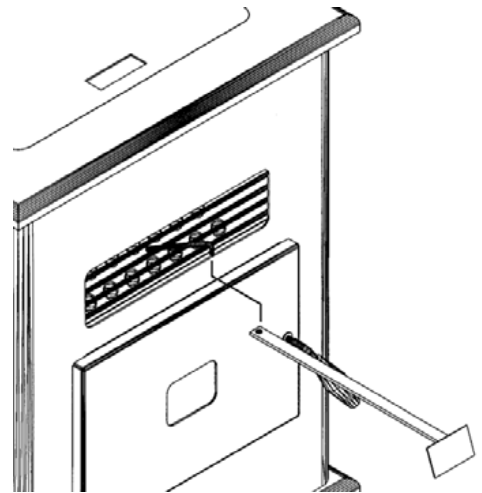

FIGURE 15
- Clean heat exchanger tubes (see "CLEANING" and Figure 15).
- Heat Exchange Tubes** - Your stove is designed with a built-in heat exchange tube cleaner. This should be used every two or three days to remove accumulated ash on the tubes, which reduces the efficiency of your unit. Insert the handle end (with hole) of the cleaning tool onto the cleaning rod (refer to Figure 15). The cleaner rod is located in the grill above the stove door. Move the cleaner rod back and forth several times to clean the heat exchanger tubes. When finished, be sure to leave tube cleaner at the rear of the stove.